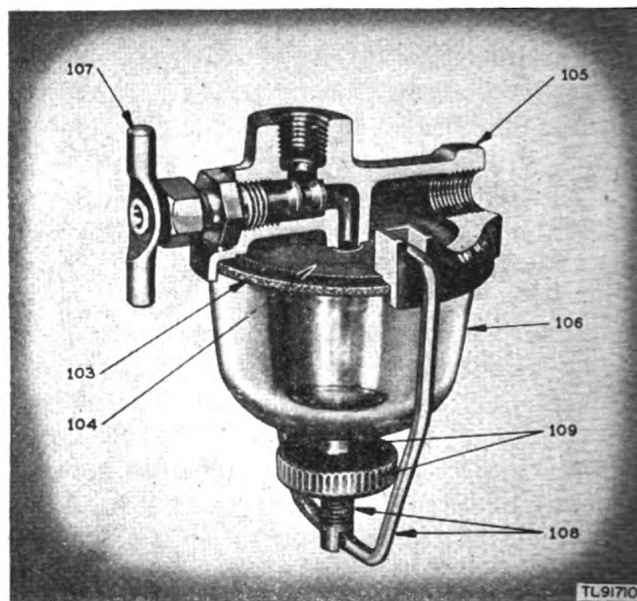

Figure 33. Fuel strainer and sediment bowl.
h. ITEM 66. *FUEL FILTERS. (1) Examine fuel filter for leakage, damage, and loose mounting.
(2) For weekly service, close the shut-off valve in the fuel line. Remove and empty the strainer bowl (fig. 33) if there is an accumulation of foreign material in the bowl. Replace the bowl making sure that the rim of the glass is clean and that it is seated firmly against the gasket. (See fig. 33(103).) Replace the gasket if it is damaged.